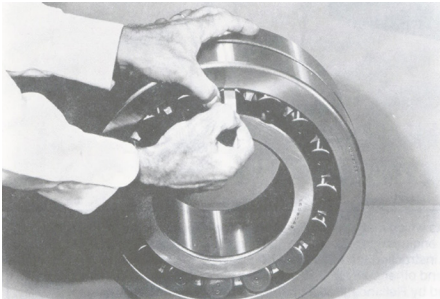

Figure 1 - Internal Clearance
2. Measure the internal clearance of the bearing before mounting. Place the bearing in an upright position as shown in Figure 1.